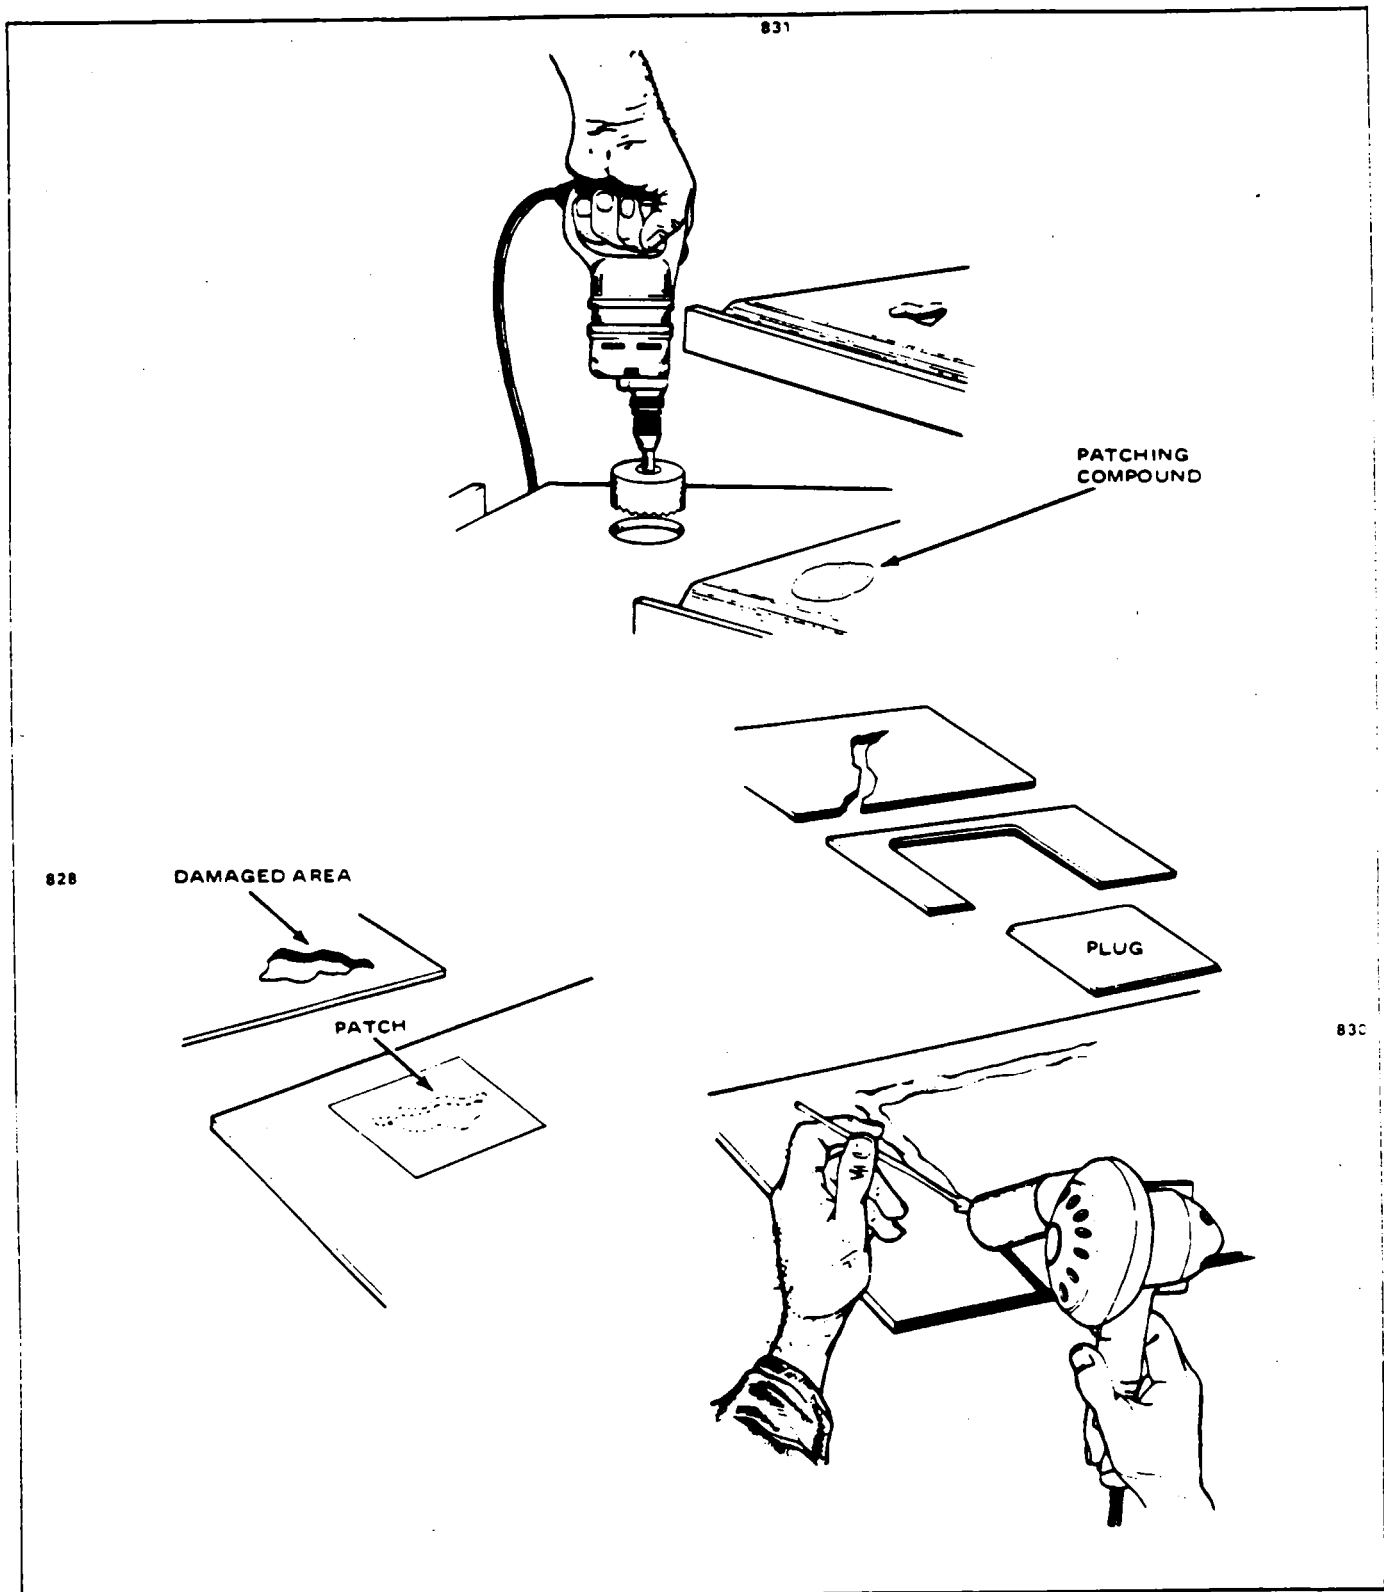

Figure 51-7. Various Repairs
5. Repairing Major Damage: (Larger than 1 inch in diameter.) (Refer to Figure 51-7.)